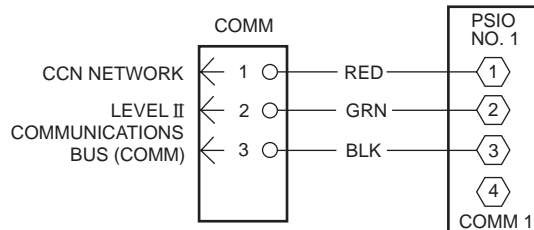

Fig. 28 — CCN Building Supervisor
- CCN Building Supervisor (Fig. 28)